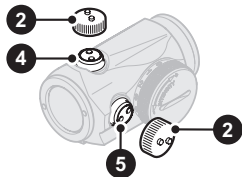

Fig. 2 Remove caps
- a Open Lens covers (3).
- b Turn the Rotary switch (8) clockwise until the red dot has a suitable intensity to contrast against the target.
- c To access the Elevation adjustment screw (4) and the Windage adjustment screw (5), remove the Adjustment cap (2). See Fig. 2.
- d The Adjustment Cap (2) or the Tool (11C) must be used to turn the Adjustment screws. Place the knobs on the Adjustment cap (2) into the recesses on the Adjustment screws (4) (5).